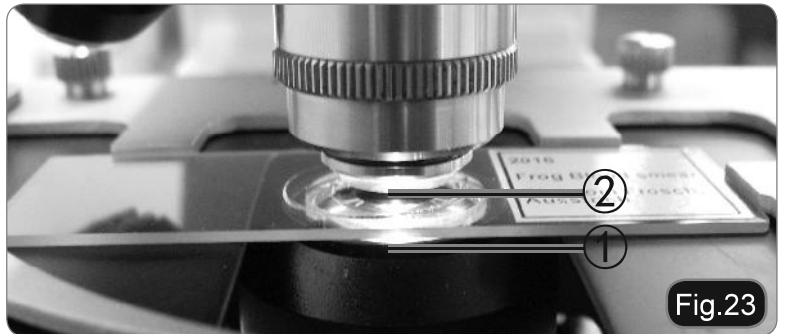

Fig.23
8. Actually, the situation must be in which the slide is completely immersed in oil both in the lower part (condenser-glass interface) ①, and in the upper part (glass-lens interface) ②. (Fig. 23)